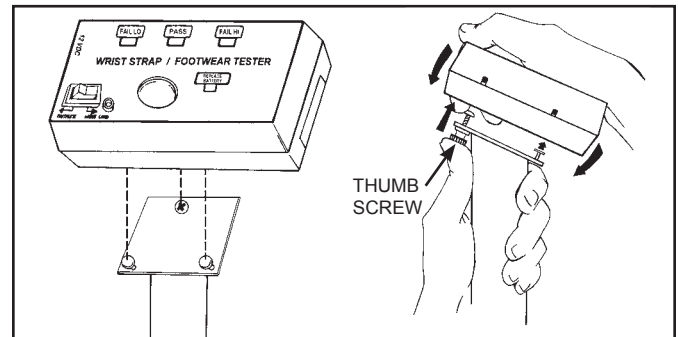

Figure 10. Installing tester on bracket
4. Install the tester on the bracket by aligning keyholes on the back of tester with mounting studs on bracket. While pushing up on thumb screw, insert the mounting studs into the keyholes and slide the tester down. See figure 10.